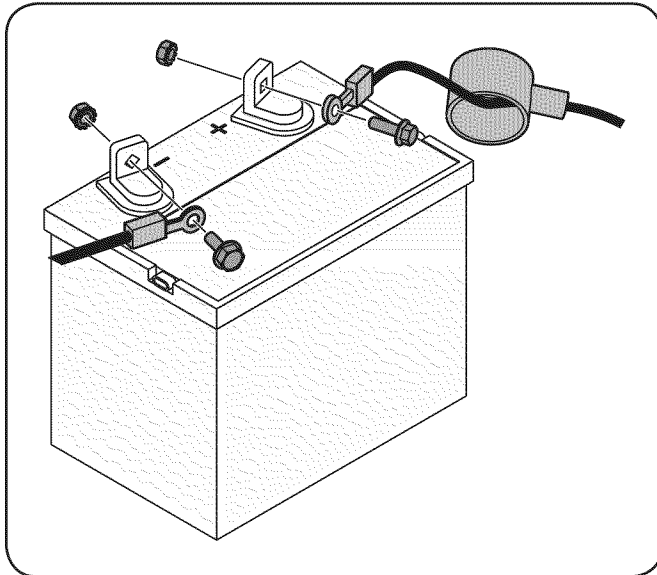

Figure 3-2
1. Remove the plastic cover, if present, from the positive battery terminal and attach the red cable to the positive battery terminal (+) with the bolt and hex nut. See Fig. 3-2.
2. Remove the plastic cover, if present, from the negative battery terminal and attach the black cable to the negative battery terminal (-) with the bolt and hex nut. See Fig. 3-2.